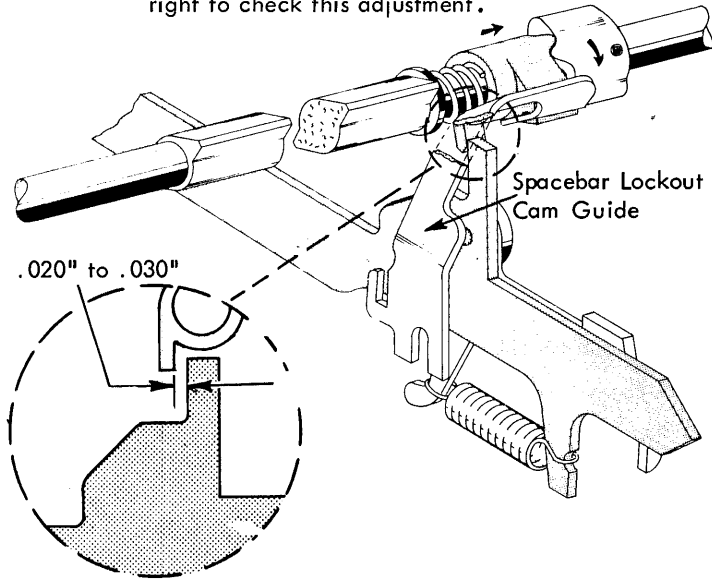

FIGURE 194. Spacebar Lockout Cam Guide Adjustment
- b. Lockout Cam Guide - Adjust the guide up or down so that the spacebar interposer will be allowed to move to the rear .020" to .030" when the interposer is unlatched (Fig. 194). The filter shaft must be rotated until the lockout cam moves fully to the right to check this adjustment.